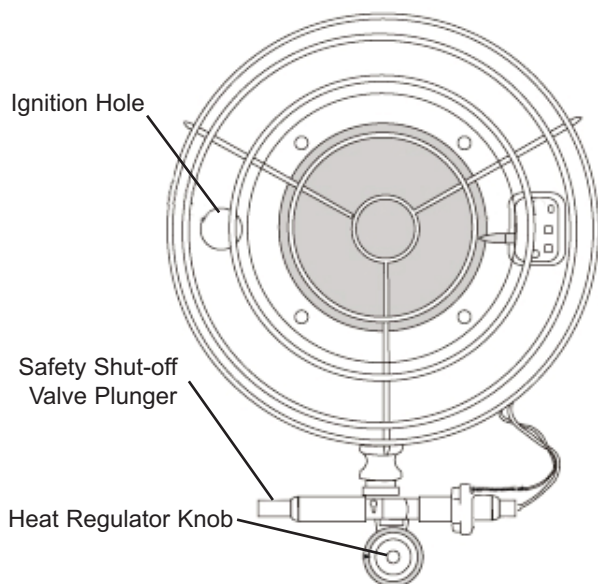

Figure 5 Front view of heater
6. Insert a lit match into the Ignition hole in the reflector, and the depress plunger until the burner lights (see Figure 5).